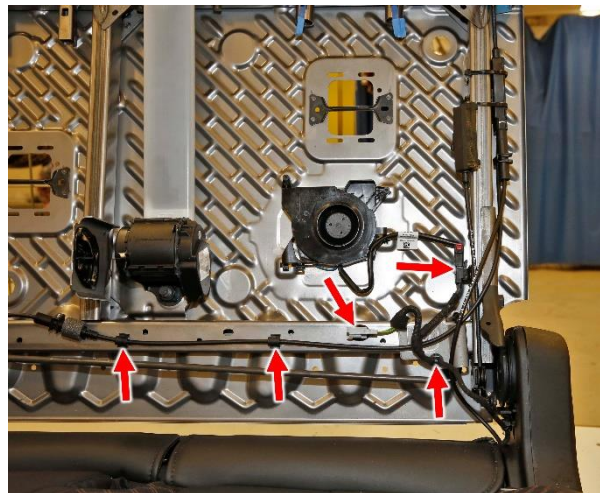

Figure 60 – Harness Cable Retainers
27. Disconnect the seat fan electrical connector then release the wire harness connector retainer from the seat back frame (Figure 60).
28. Release the seat heater wire harness connector retainer from the seat back frame (Figure 60).
29. Release the EZ-Entry handle cable retainers from the seat back frame lower crossmember (Figure 60).
51. Install the EZ-Entry handle cable retainers to the seat frame lower crossmember (Figure 60).
52. Install the seat heater wire harness connector retainer to the seat frame (Figure 60).
53. Connect the seat fan electrical connector then install the wire harness connector retainer to the seat frame (Figure 60).